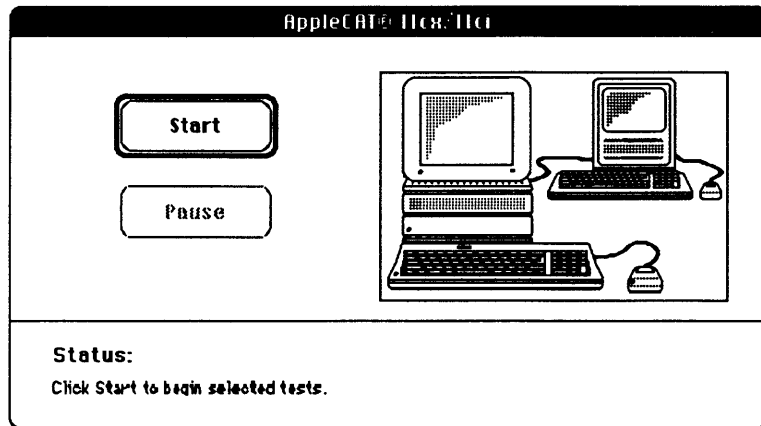

Figure 3-8 AppleCAT Ilcx/Ilici Start Window
2. Open the disk icon and then the *AppleCAT Ilcx/Ilici* icon. The *AppleCAT Ilcx/Ilici* Start window appears on the test station screen (**Figure 3-8**).